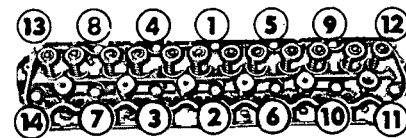

FIG. 24—Cylinder Head Bolt Torque Sequence
6. The cylinder head bolts are tightened in three progressive steps. Torque all the bolts in sequence (Fig. 24) to 55 ft-lbs, then to 65 ft-lbs, and finally to specifications. When cylinder head bolts have been tightened following this procedure, it is not necessary to retorque the bolts after extended operation. However, on cylinder heads with composition gaskets, the bolts may be checked and retorqued, if required. **After the cylinder head bolts have been torqued to specifications, the bolts should not be disturbed.**